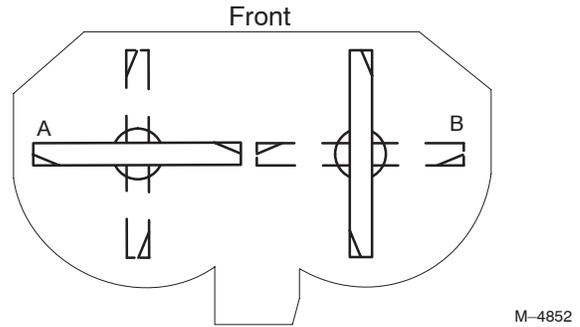
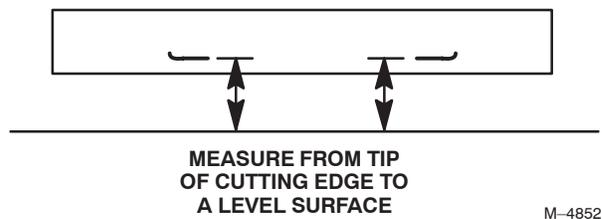

Figure 53
Figure 54
- Position the blades side-to-side (Fig.53). Measure at **A** and **B** locations (Fig. 53) from a level surface to the cutting edge of blade tips (Fig.54).